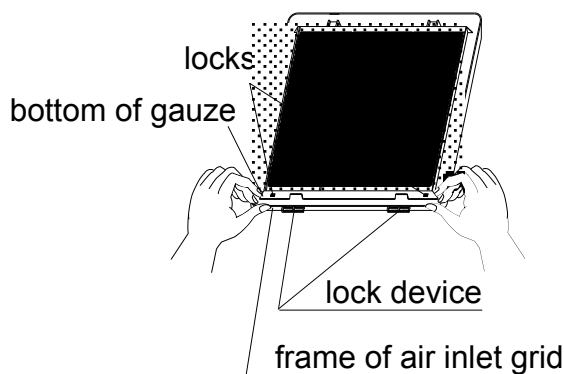

Fig. 3
2. Dismantle the gauze: press the outer frame of the air inlet grid by the thumb, and draw the base angle of gauze by the forefinger and pull it out as to make the gauze disengage the locks, and dismantle the gauze (as shown in Fig. 3).
1. Mounting the gauze: opposite to the ways of dismantling the gauze (as shown in Fig. 3 above).